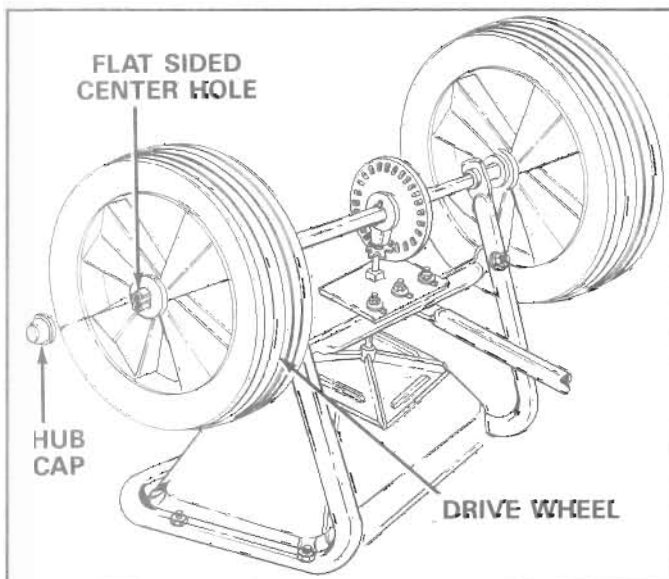

FIGURE 7
3. If for any reason the axle, gear and sprocket assemble is disassembled, be sure to mark position of parts as they are removed. Drive wheel and sprocket position determine relation direction of spreader plate. See figure 7 on page 5. With reassembly of gear and sprocket use shim washers (see page 10 Ref. No 21) as needed for minimum backlash. Add grease to gear and sprocket.